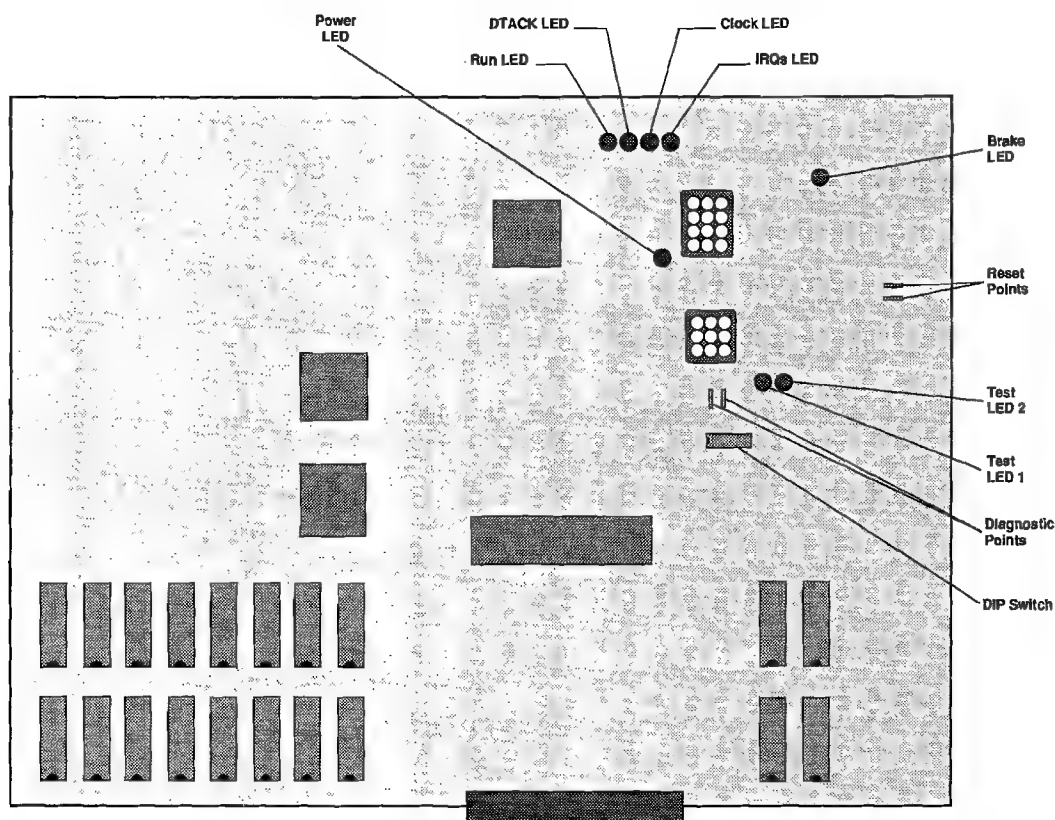

Figure 2-28 DIP Switch and LED Locations on the Main PCB
Figure 2-28 shows the location of the LEDs on the main PCB. Table 2-9 shows the possible status of the LEDs, with an explanation of what they indicate.
1. Put a jumper across the DIAGN test points, shown on Figure 2-28.
4. Put a jumper momentarily across the RESET test points, shown in Figure 2-28.